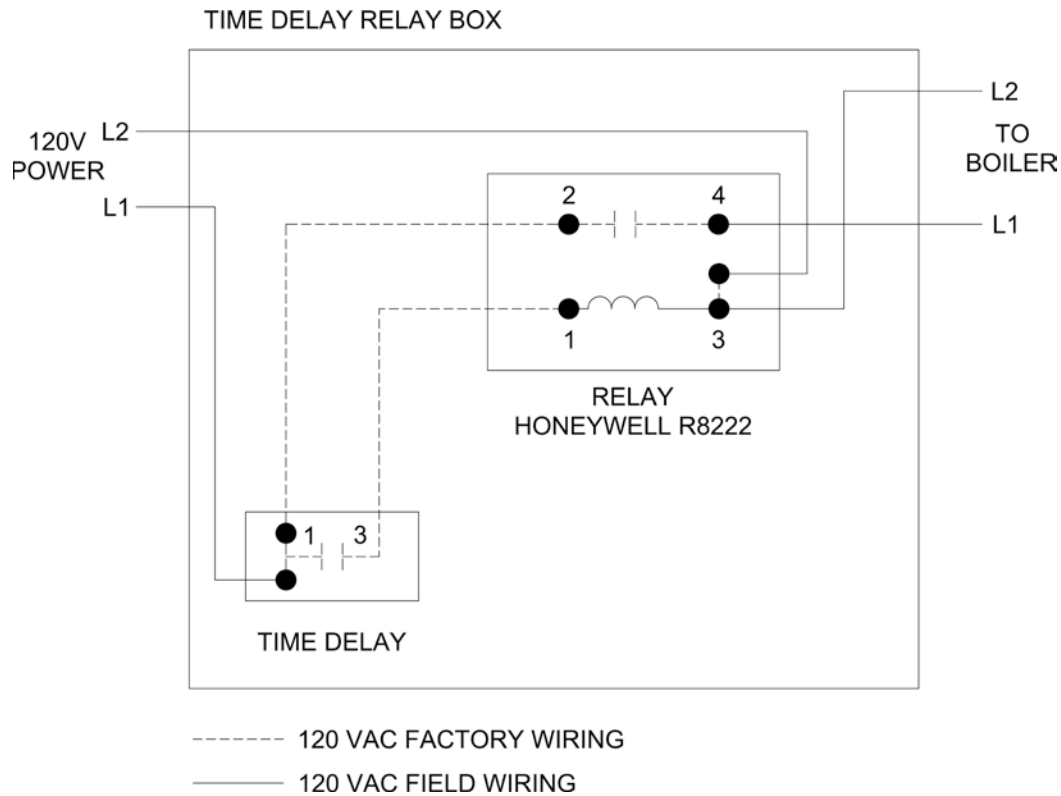

Figure 38: Wiring for MCBA Modulating Boiler Control Time Delay Relay Box
5. If the boiler installation site may be subject to low supply voltage conditions or “brownouts”, that would affect MCBA Modulating Boiler Control operation, a separate optional Time Delay Relay Box (P/N 101693-01) installation is strongly recommended. See Figure 38 “Wiring for MCBA Modulating Boiler Control Time Delay Relay Box” and follow the following installation steps:
- e. Connect wiring to MCBA Time Delay Relay Box as per wiring diagram (Figure 38).
- f. Connect additional field wiring (not included in the kit) from MCBA Time Delay Relay Box to 120 volt power wiring as per wiring diagram (Figure 38).